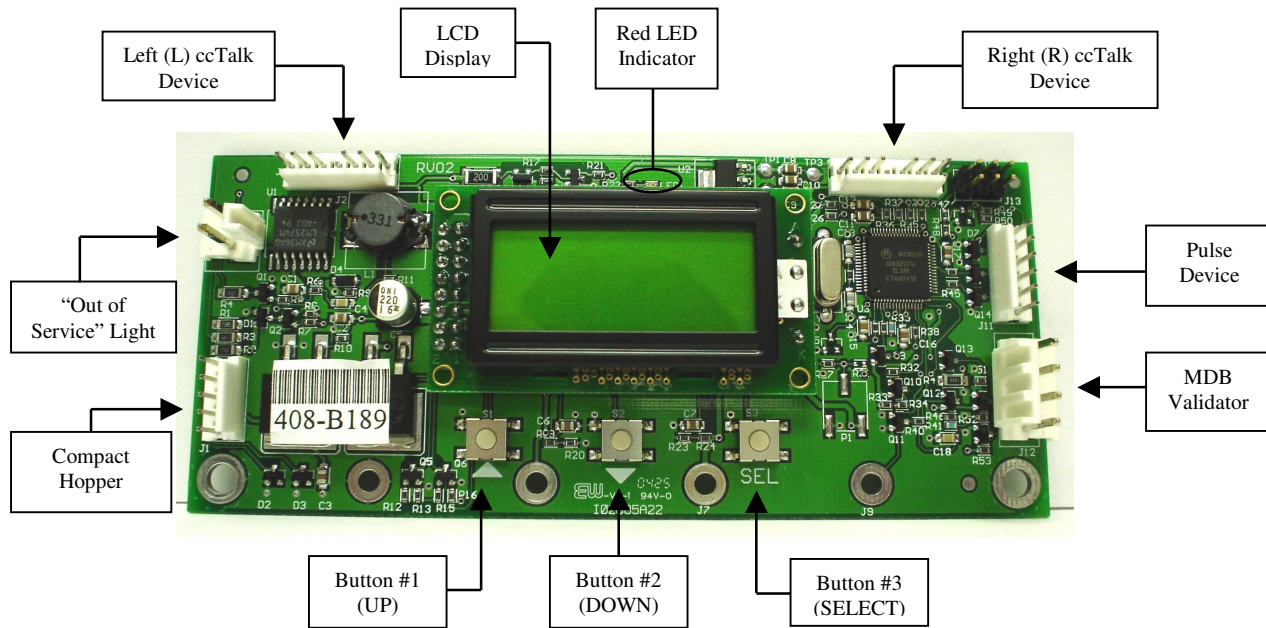

Figure 1 – Main Logic Board
Power-ON the changer, and allow it to run through its start-up procedure, which may take up to a minute or more. During this time, you will hear the validator motors cycling. This is normal. After waiting the allotted time, the changer will be in its Standby state, ready to accept bills or coins. In this state, the MLB display's backlight will be on continuously, and the screen will display the current count of total dollars changed by the machine. Additionally, the board's red LED will blink once per second to indicate that the unit is getting power and functioning normally. (See Figure 1.)
Your changer comes preset with default operational settings that are easily reprogrammed to meet your desired application. Programming is done using the three buttons and LCD display located on the Main Logic Board as an interface. (See Figure 1.)
ccTalk: Select this option if using one or more hoppers with a ccTalk serial interface to the Main Logic Board (MLB). Once selected, enter the number of ccTalk hoppers – one or two – to be used in the changer. *Note: Each Logic Board has the capacity to control two ccTalk hoppers, left and right; but, if only one is used, it must be plugged into the left-side connector (see Figure 1 for the ccTalk device connections on the MLB). Further Note: If your model changer has two Logic Boards and two hoppers, then only one hopper will be controlled by each board; select '1' as the number of ccTalk hoppers on both boards.*
ccTalk: This option should be selected if the installed coin acceptor communicates with the Main Logic Board using ccTalk serial communication protocol (see Figure 1 for the ccTalk device connections on the MLB; contact the coin acceptor's manufacturer or American Changer if help is needed). After choosing ccTalk, the program prompts for specification of the currency type that will be processed by the coin acceptor. Choose either US or Canadian coins.
Pulse: If the installed coin acceptor communicates with the Logic Board using pulse protocol, select 'Pulse' (the Condor Plus uses Pulse communication). Following this, the program will request specification of the logic level used to enable the coin acceptor, high (Hi) or low (Lo) (for the Condor Plus, select high). *Note: The Logic Board can only control one pulse device; if a pulse validator is installed, a pulse coin acceptor cannot be (see Figure 1 for the pulse device connection on the MLB).*
MDB: Select 'MDB,' and then enter how many MDB validators are installed in the changer – either one (1) or zero (None!). (See Figure 1 for the MDB validator connection on the Main Logic Board.)
Pulse: Select 'Pulse,' and then choose either one (1) or zero (None!) to specify the number of pulse validators that are inside the unit. If '1' is chosen, then the program will further prompt for whether the validator is enabled using a logic-high (Hi) or a logic-low (Lo) signal; either must be chosen. *Note: The Logic Board can only control one pulse device; if a pulse coin acceptor is installed, a pulse validator cannot be.* (See Figure 1 for the pulse device connection on the MLB.)